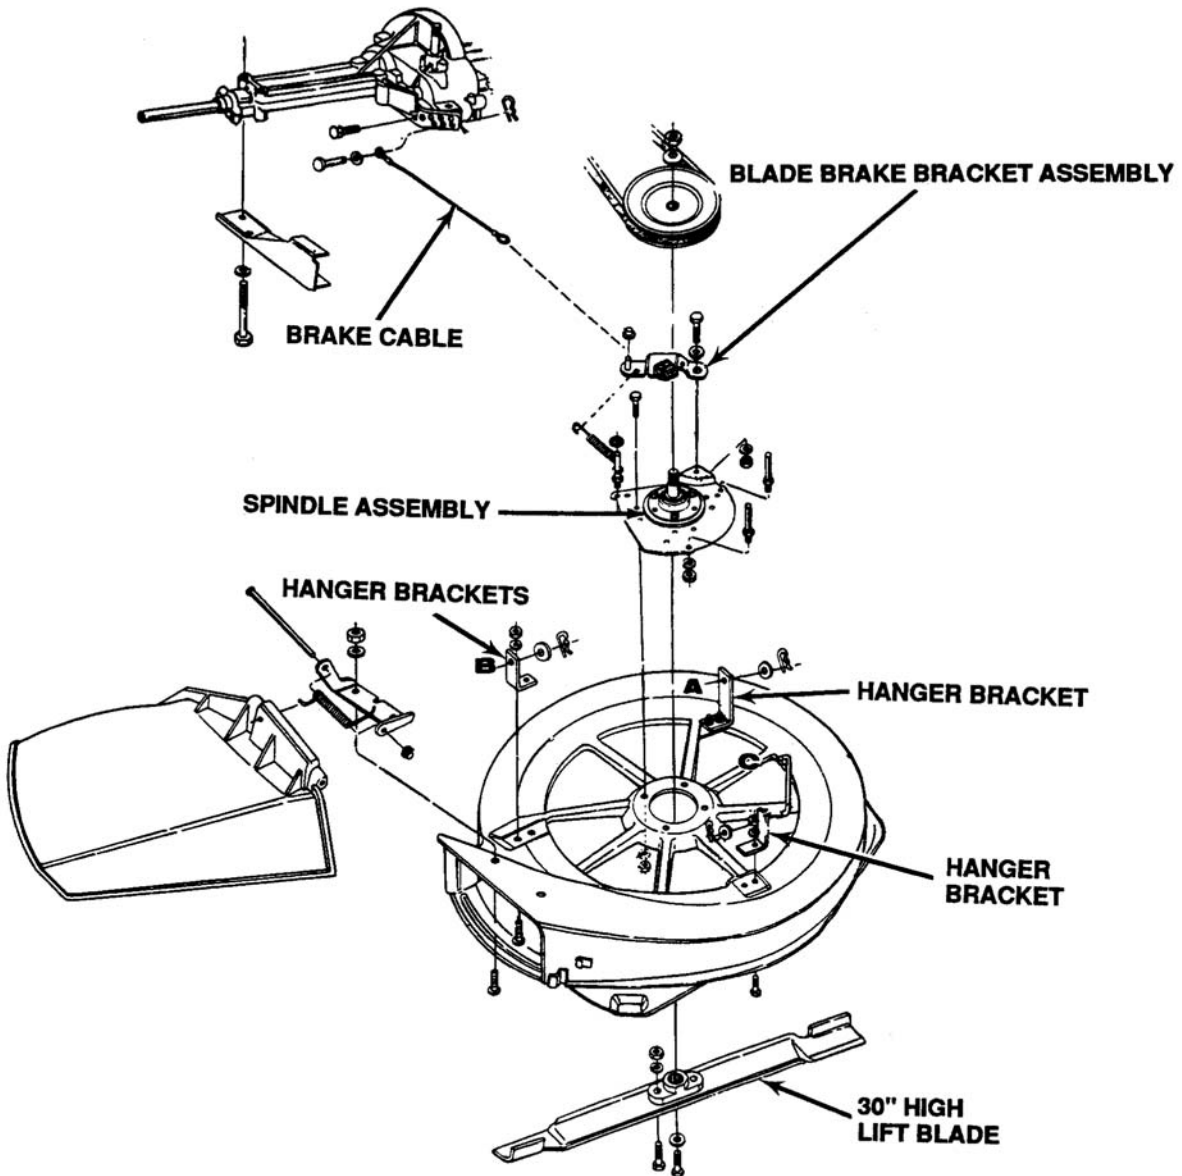

Figure 12-8. Rear Discharge Deck 1990 and Later
- 12-5.1 This deck was redesigned to use the 063 twin bag grasscatcher and 435 adapter package and is also interchangeable with units produced prior to 1990. See Figure 12-8.